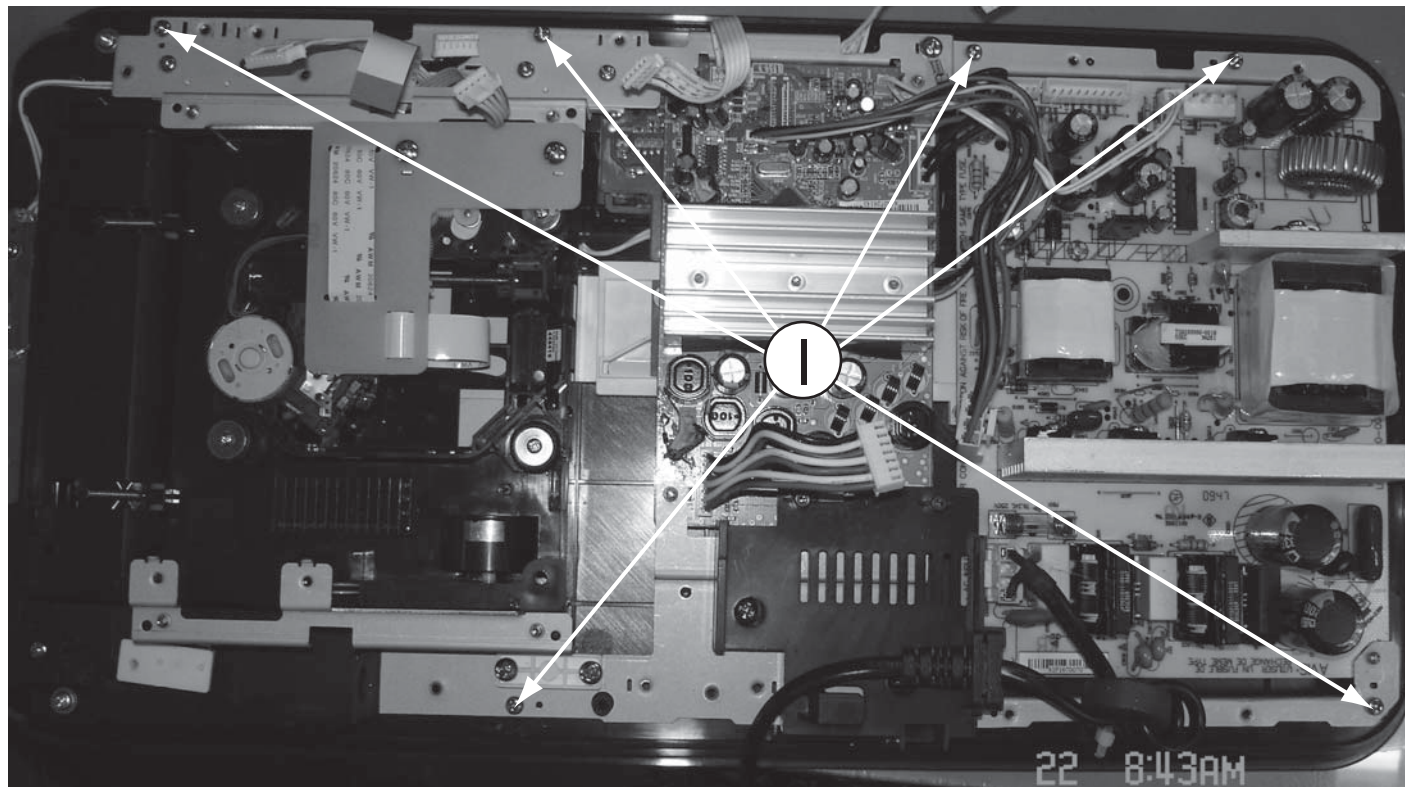

Figure 10
- 1) Loosen 6 screws "I" at the power PCB bracket as shown in figure 10.